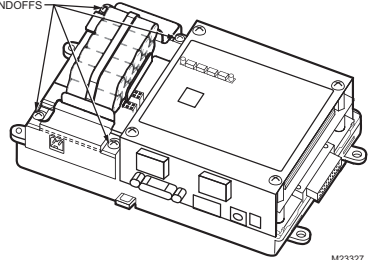

Fig. 4. Re-Fasten Screws through Battery Bracket.
9. Place the four screws through the battery bracket, end plates and into the standoffs on the controller base board. Hand tighten these screws (See Fig. 4).